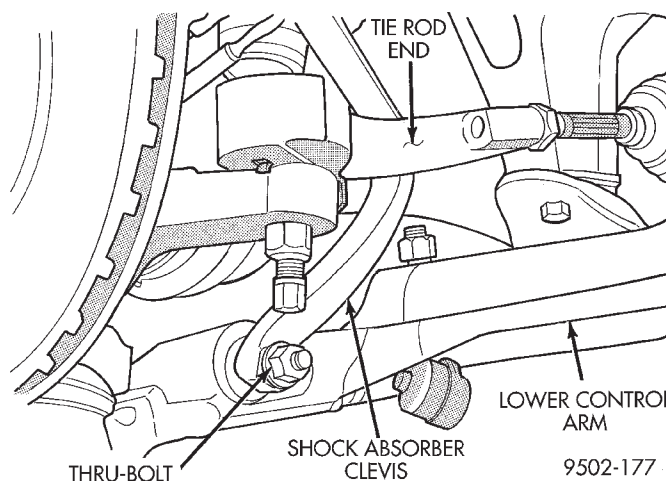
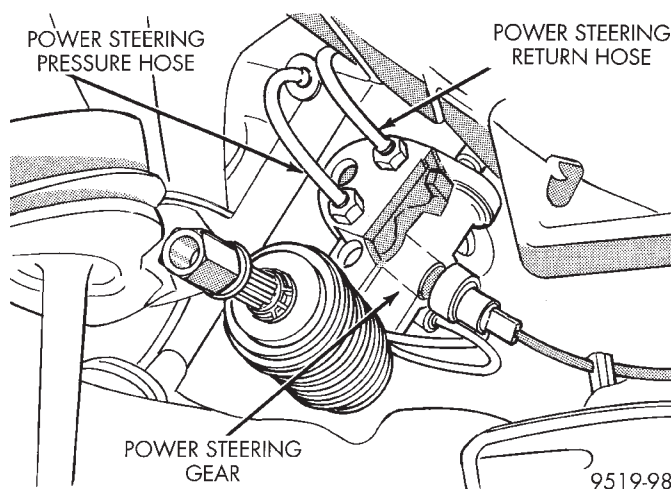

Fig. 13 Shock Clevis To Lower Control Arm Bolts
Fig. 18 Power Steering Pressure And Return Hose At Steering Gear
(11) If vehicle is equipped with antilock brakes, the hydraulic control unit can not hang from the brake tubes when lowering front suspension crossmember. Using wire, tie the antilock brakes hydraulic control unit to the body and engine so the wire will support it when the crossmember is lowered.
(12) If vehicle is equipped with antilock brakes, remove the 3 bolts attaching the antilock brakes hydraulic control unit to the front suspension crossmember.
(13) Remove the bolts attaching the shock absorber clevis to the left and right lower control arms (Fig. 13).
(19) Using transmission jack, lower front suspension crossmember enough to allow steering gear to be removed from crossmember. **When lowering front suspension crossmember, do not let crossmember hang from lower control arms, weight of crossmember must be supported by the transmission jack.**
(20) Remove power steering fluid, pressure and return hoses from the power steering gear assembly (Fig. 18).
(21) Remove wiring harness connector, (Fig. 18) from the power steering fluid pressure switch.
(2) Install the power steering fluid pressure and return lines on the ports of the power steering gear (Fig. 18). Tighten power steering fluid pressure and return lines to steering gear tube nuts (Fig. 18) to a torque of 31 N·m (275 in. lbs.).
(8) Install vehicle wiring harness connector (Fig. 18) onto power steering fluid pressure switch on steering gear assembly. **Be sure locking tab on wiring harness connector is securely latched to pressure switch.**
(9) Install the antilock brakes hydraulic control unit mounting bracket on the front suspension cross-member. Install the 3 mounting bracket to crossmember attaching bolts and tighten to a torque of 28 N·m (250 in. lbs.).
(10) Loosely install the 2 shock absorber clevis to lower control arm attaching nuts and bolts (Fig. 13).
(15) Tighten the shock absorber clevis to lower control arm bushing thru-bolt (Fig. 13) to a torque of 92 N·m (68 ft. lbs.).